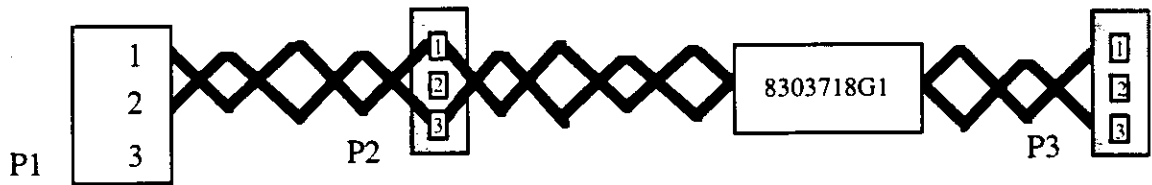

Figure 2-11. HIC Communication Cable 8303718G1
- a. Mate connector P1 of HIC Communication Cable 8303718G1 (Figure 2-11) to the RS-485 port on the computer rear panel.